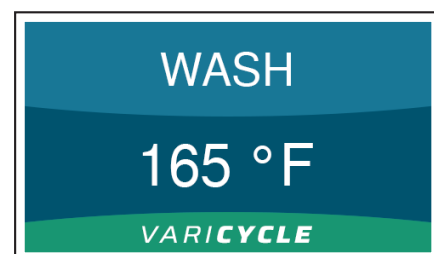

Fig. 42 - Varicycle Wash Screen
5. Displays VARICYCLE if machine enters Varicycle during wash state (see Fig. 42).